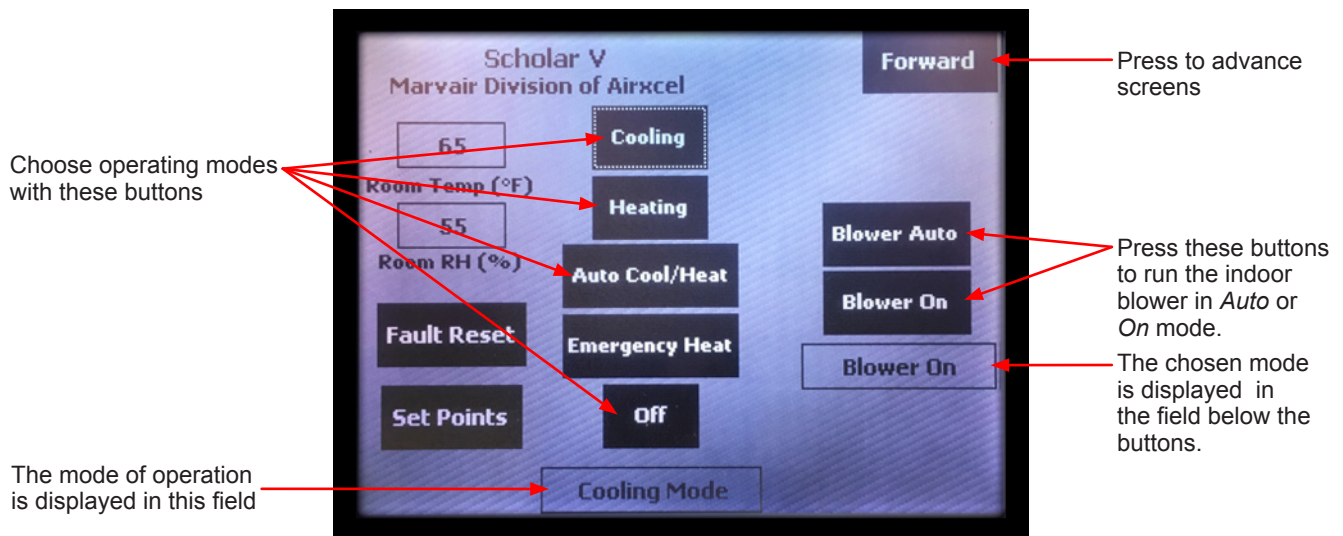

Figure 19. Mode Selection on Home Screen
- I. In the Cooling Mode, the compressor should be running. It is very quiet and difficult to hear. In addition, if the room temperature is close to the Cooling Set Point, the compressor may be running at a low speed which makes it even quieter. Press the *Forward* button (see Figure 19) to advance the screens until you get to the *Temperature* screen. This screen will let you observe what compressor control voltage is being delivered to VSD (Variable Speed Drive) of the compressor.